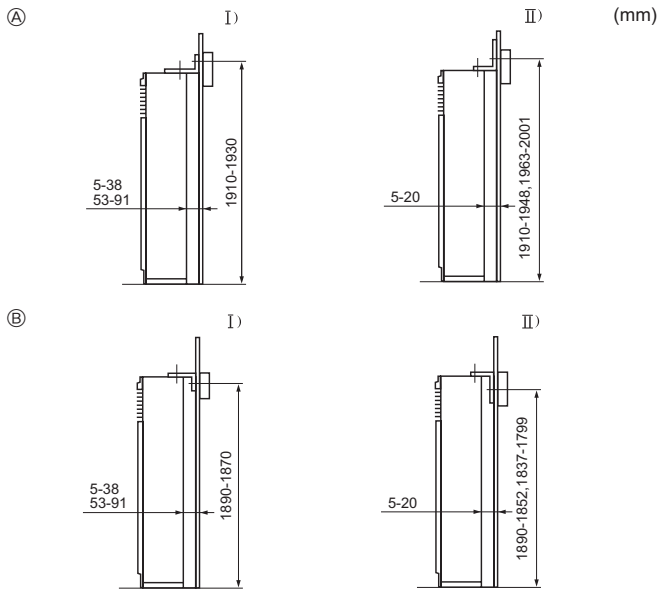

Fig. 3-3
- ① Tip-over prevention bracket
The tip-over prevention bracket ① is set on the top surface of the unit. Remove the tapping screws ②, and then reinstall the bracket, as shown in the illustration. For the proper installation distances, see Fig. 3-3.
- ② Screw
- Ⓓ Remove the screw ② and then pull the grill forward to remove it.
3.3. Mounting the tip-over prevention bracket (Fig. 3-3)